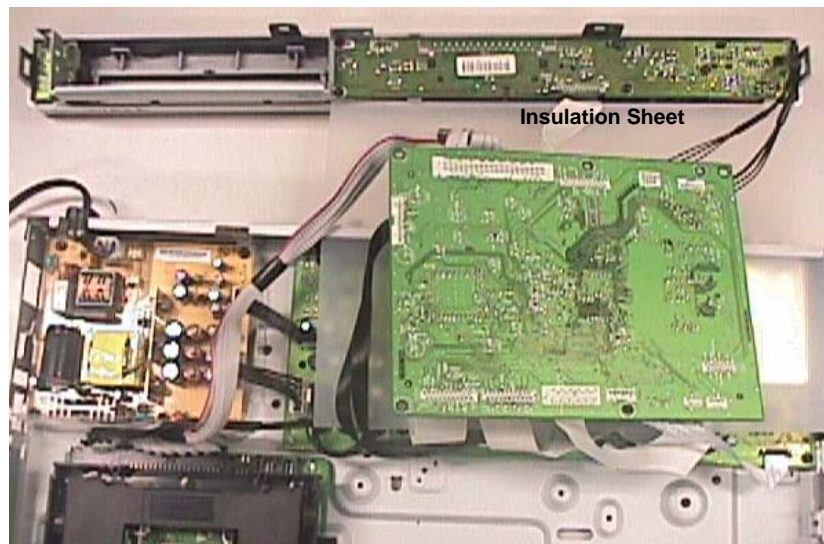

Figure 10 - Digital Board Service Position
- 2) It is necessary to detach the Front Panel for Digital Board Service Position as shown in Figure 10.